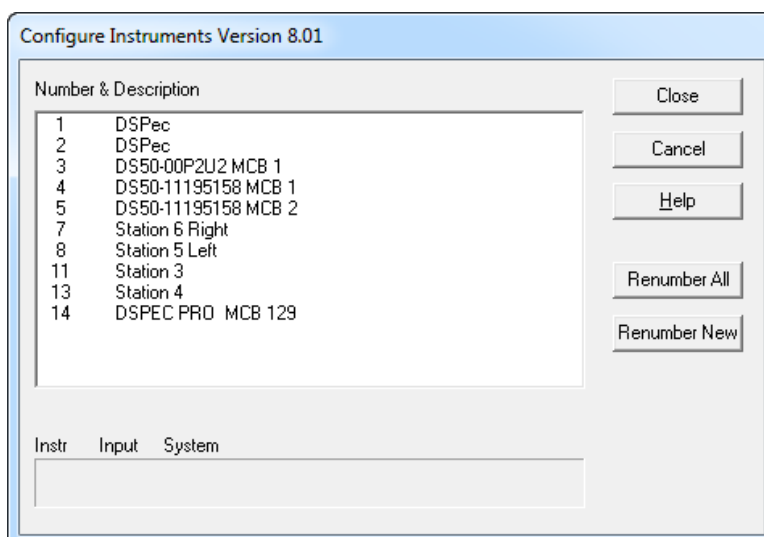

Figure 6. MCB Numbering and Descriptions.
- 3) To start the software, type `mcb` in the "Search programs and files" box on the Windows Start menu, then click the **MCB Configuration** search result; or open the Windows Start menu and click **MAESTRO**, then **MCB Configuration**. The MCB Configuration program will locate all of the powered-on ORTEC MCBs on the local computer and the network, and display the list of instruments found (the *Master Instrument List*; Fig. 6). If you wish, you may enter customized instrument ID numbers and descriptions (Section 2.2.4.2). When you close the dialog, any changes you have made to an ID number or description will be written back to the corresponding MCB.